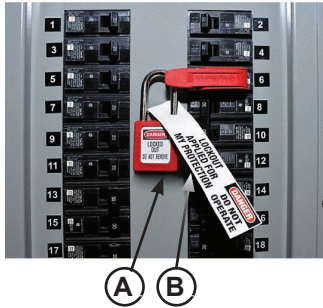

Figure 27
When working with electrical or electronic controls, make sure that the power source has been tagged (A) and locked out (B) according to OSHA regulations and approved local electrical codes See **Figure 27**.